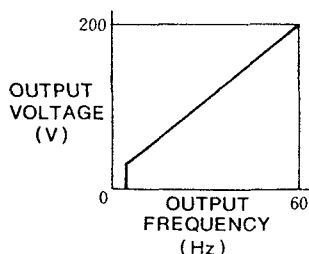

Figure 3. Example of V/f Pattern
- (1) Base drive circuit: Drives the transistors in the converter circuit
- (2) Sine wave PWM control circuit: Calculates the pulse width every time a reference signal is received from the V/f control circuit, and outputs a PWM signal approximating a sine wave.
- (3) V/f selector circuit: Selects V/f pattern from 15 types of built-in voltage/frequency (V/f) patterns (See Figure 3)